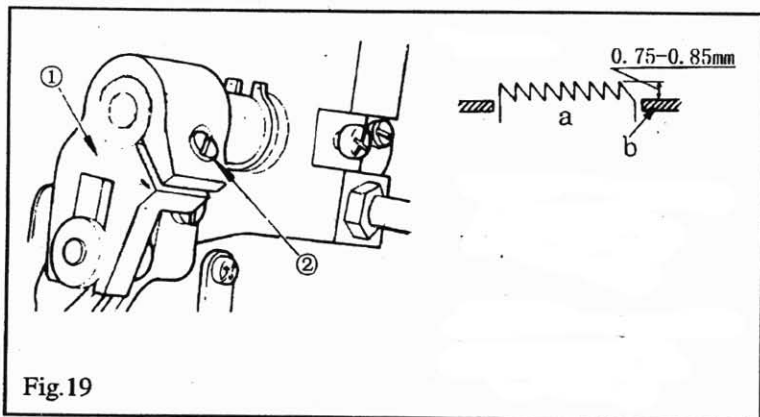

Fig.19
- 1) Loosen two setscrews ② and ③ on feed eccentric cam ①, properly position the eccentric cam. Then retighten the setscrews.
13. HEIGHT OF THE FEED DOG (Fig. 19)